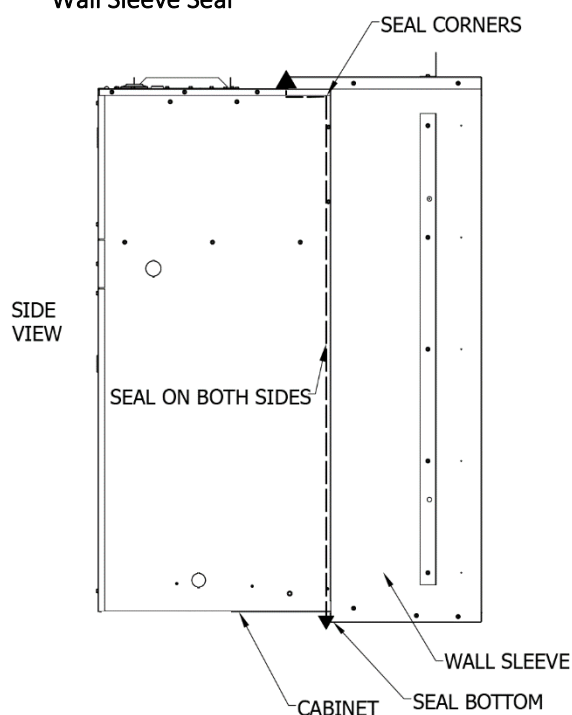

FIGURE 12 – Wall Sleeve Seal
2. Attach the top mounting bracket to the unit with screws (5) provided with unit. Refer to **FIGURE 12 – Wall Sleeve Seal**
7. Inspect the sleeve seal, which is supplied with the sleeve, to ensure that it is properly secured and aligned refer to **FIGURE 12 – Wall Sleeve Seal**).